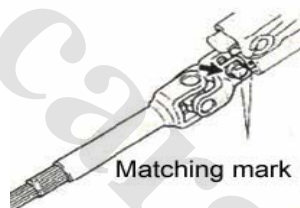

Fig. 2-34
- ① Disconnect the connector and harness clip from the steering column assembly.
- ② Remove the 3 bolts and the steering column assembly.
- ① Mark the matching place on the main shaft and intermediate shaft, as shown in Fig. 2-34.